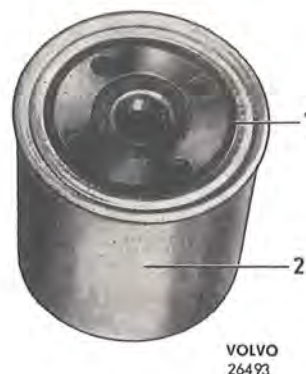

Fig. 2-42. Oil filter ready for fitting
2. Coat the rubber gasket (1, Fig. 2-42) of the new filter with oil and make sure that the contact surface for the oil filter is free from dirt. By smearing it with oil, the gasket slides into better contact with the sealing surface. Screw on the filter by hand until it just touches the cylinder block.